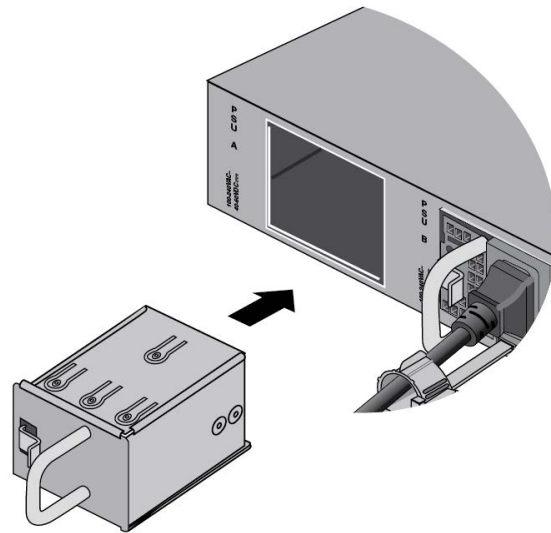

Figure 151. Installing the Blank Power Supply Cover
7. Orient the blank power supply cover as shown in Figure 151 on page 255 and slide it into the slot until it clicks into place.
9. Orient the blank power supply cover as shown in Figure 151 on page 255 and slide it into the slot until it clicks into place.